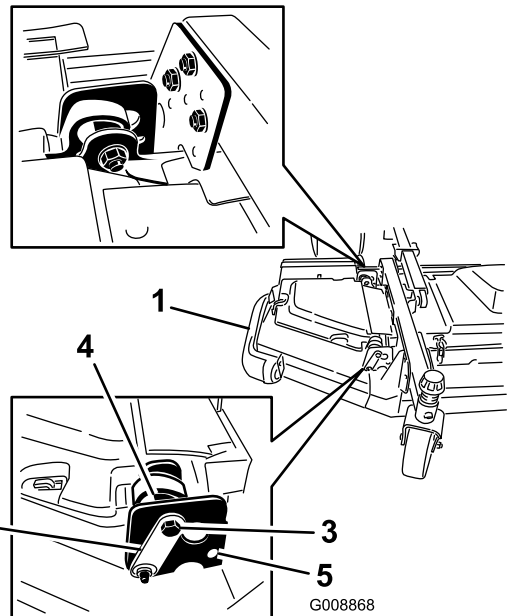

Figure 7
2. Loosen the bolts and nuts securing the 2 eccentric spacers to the winglets (Figure 7).
3. Rotate the rear (closest to the traction unit) eccentric until the outside blade tip is about 3 mm (1/8 inch) higher than the desired height of cut (Figure 7).